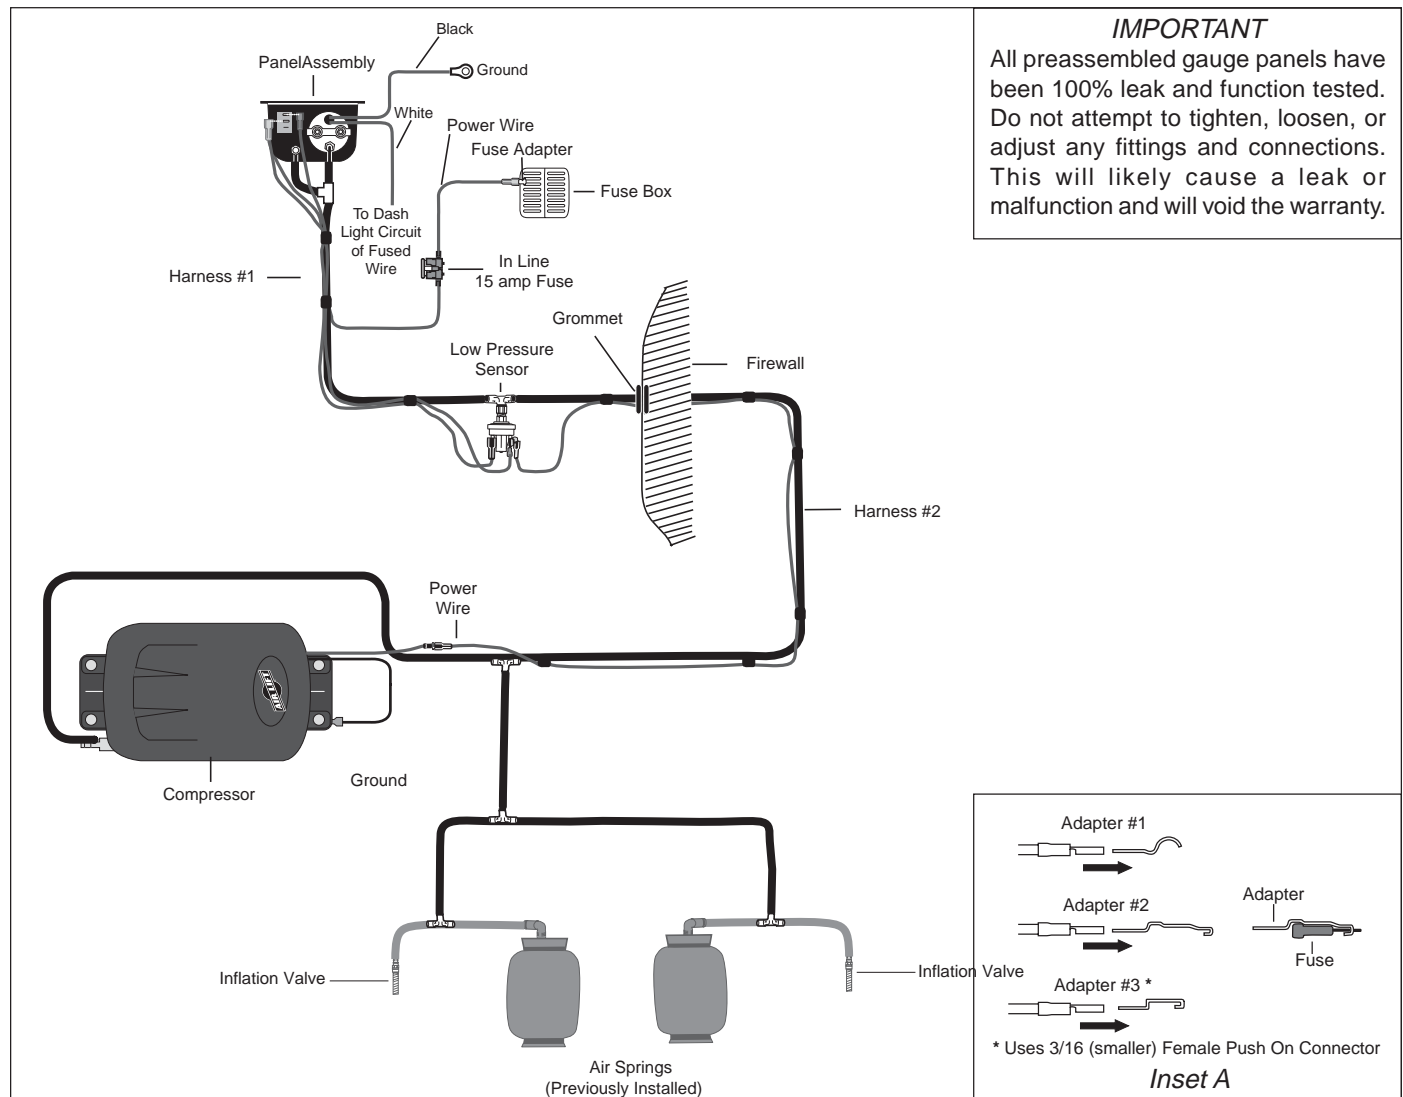

Figure 1
2. Now install the compressor unit. Hold the compressor in the recommended location and attach the mounting brackets to the vehicle with the provided silver self tapping screws. In some cases the mounting area does not provide enough room to use a drill to drive the screws in. It may be necessary to use the mounting brackets as a template to drill $^{13}/_{64}$ " holes through the frame first and then use a $^{7}/_{16}$ " nut driver to install self tapping screws. *NOTE: Attach the ground wire to one of the screws (Figure 1 & 5).*
6. The next connection is between each air spring and the air line "T" fitting located just ahead of the check valve in Harness #2 near the compressor (Figures 1 & 5). With the air springs deflated, use a hose cutter, a razor blade, or very sharp knife to cut the air line already installed between the air spring and the inflation valve. Install the provided "T" fittings in each air line (Figure 1). Push the air line into each leg of the "T" until you feel a definite "click". The line should go in $^{9}/_{16}$ ". Connect a single length of air line to the open leg of each "T". Cut this piece of air line in half and install another "T" fitting. Connect another length of air line to run from this "T" to the "T" already installed in Harness #2. Avoid heat sources, sharp edges and tight bends (Figure 1).
8. GAUGE LIGHT: Route the white wire for the illuminated gauge to harness number one's fused wire or to a dash light wire circuit and attach with the quick splice provided. Ground the black wire to an adequate ground. Use the additional wire and connectors supplied if longer leads are needed (Figure 1).